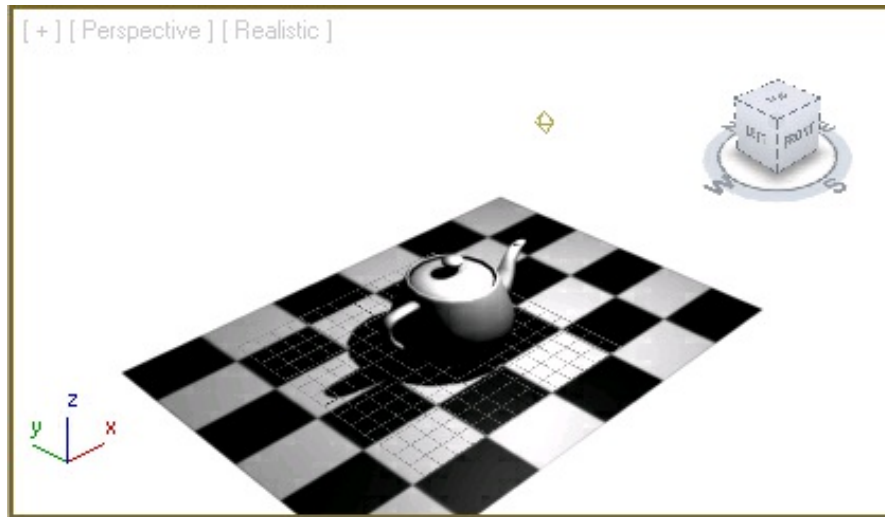

Figure 13-6 The shadow of the object with the **Realistic** shading type
2. By default, the **Realistic** shading is displayed in the Perspective viewport. In the **Realistic** shading type, shadows are displayed by default in the viewport, refer to Figure 13-6.